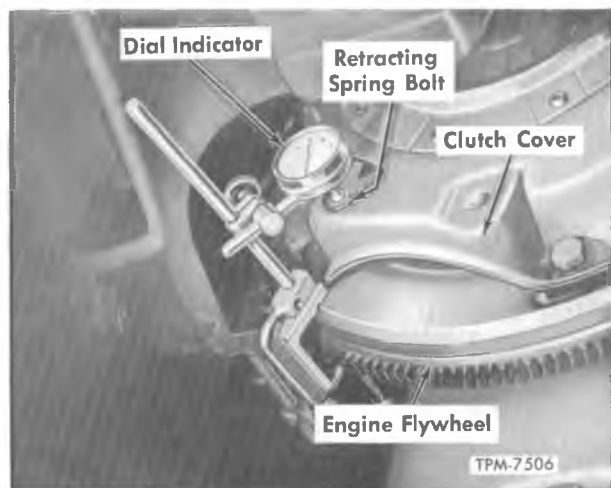

Figure 6—Checking Pressure Plate Lift
3. If steps 1 and 2 do not eliminate trouble, check pressure plate lift with dial indicator (fig. 6) as follows: